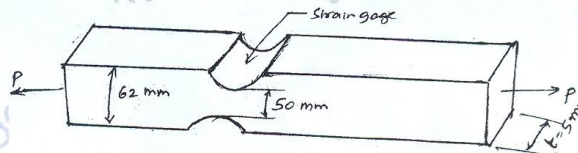

Fig. Q6 (c)
c. A notched member shown in Fig. Q6 (c) has a strain gage reading of 0.002 at the notch root. When a load of 40 kN is applied. Yielding for this material occurs at a strain of 0.0025. The load is increased such that the strain gage reads 0.0065 when the load is 80 kN. Determine K_t and K_e . Compare it with values obtained using linear rule and Nueber rule. (08 Marks)